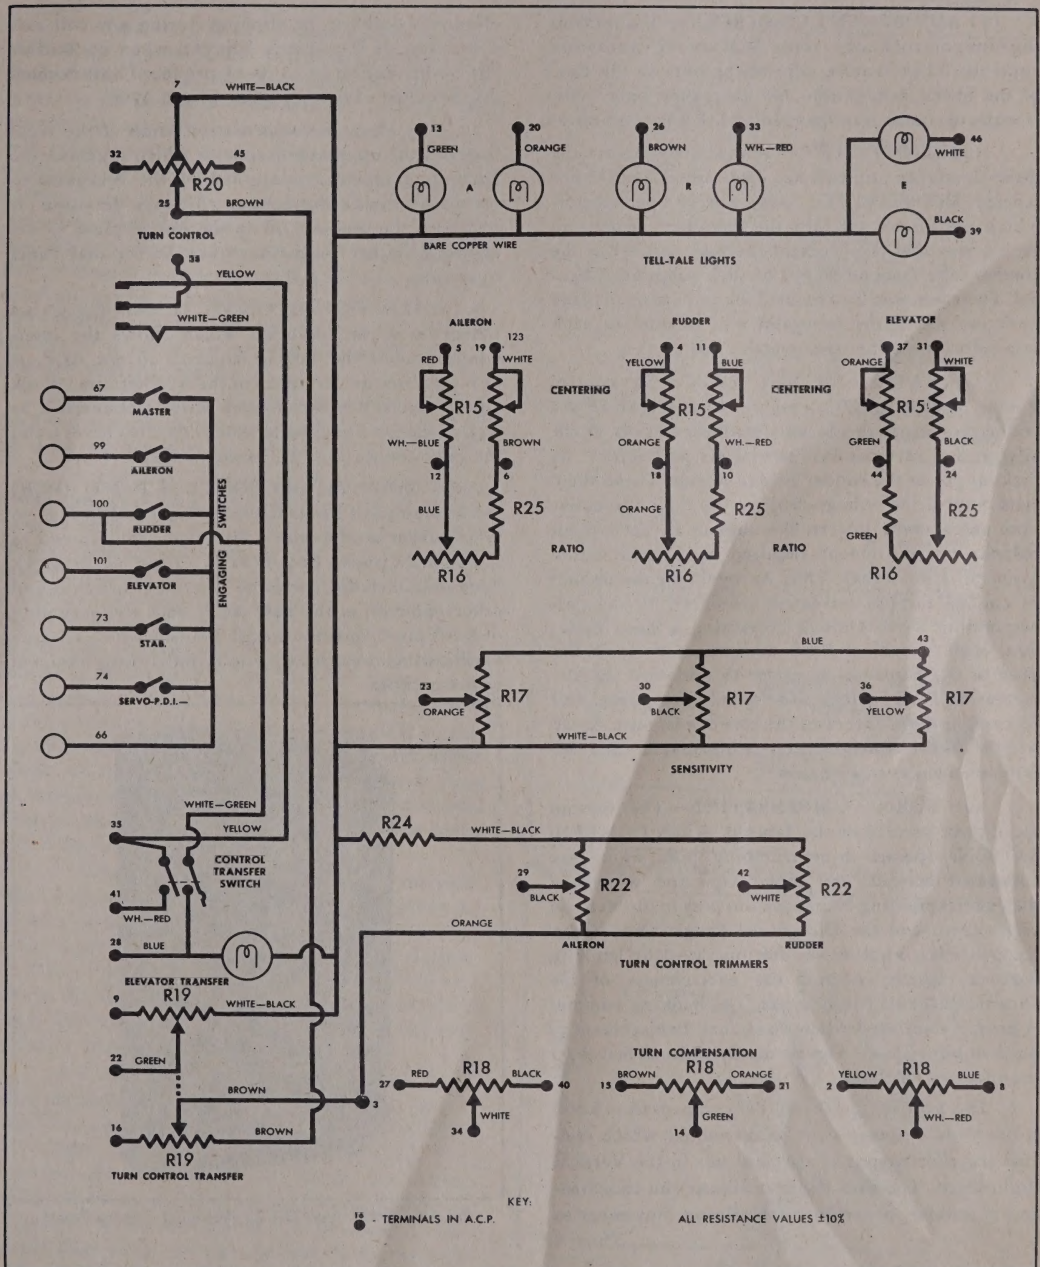

Fig. 95—Schematic Wiring Diagram of Autopilot Control Panel (without Formation Stick)
(6) **ELECTRICAL CONNECTIONS**—Fig. 95 is a schematic wiring diagram which shows the interconnection of the various controls in the ACP. It also indicates the terminals of the ACP terminal block (black circles) to which each wire is connected, as well as the junction box terminals (white circles), and the inter-connecting "FL" wire numbers.